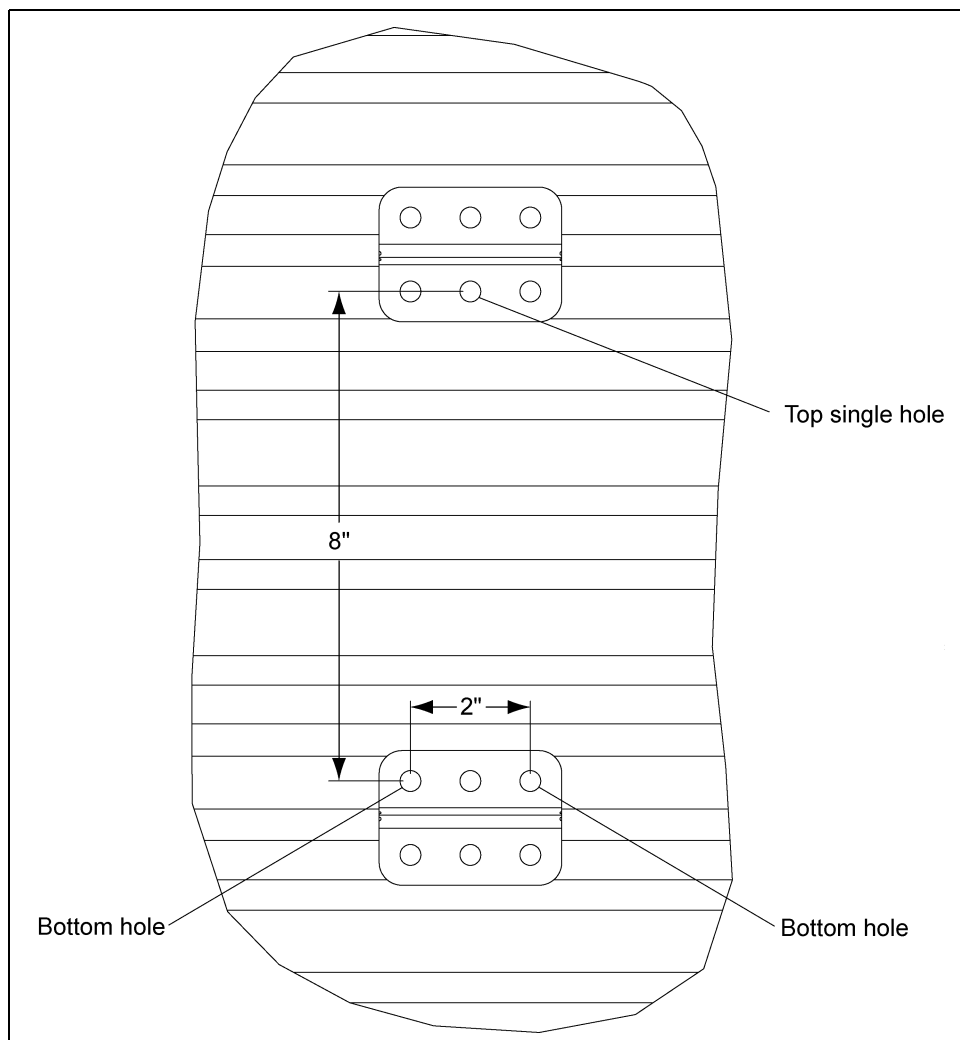

Figure 3A
6. Eight inches (8") vertically down from the previously drilled hole, drill two (2) holes that will accept one of the 5/16"-18 x 1-1/4" bin bolts with washer at the peak of a rib in the sidewall sheet. The holes should be spaced away from that top hole one inch (1") to each side. See Figure 3A for visual explanation.